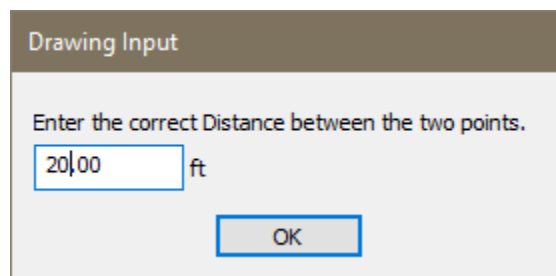

Figure 4-5
- In the **Message Bar** click the **Enter** button to open the Drawing Input window shown in **FIGURE 4-5**.